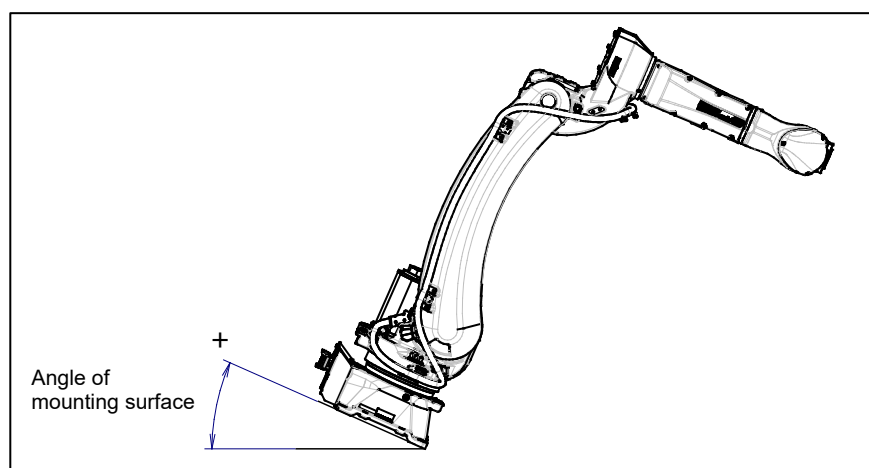

Fig.1.2.2 (a) Mounting angle
- 6 Input the mount angle referring to Fig.1.2.2 (a).